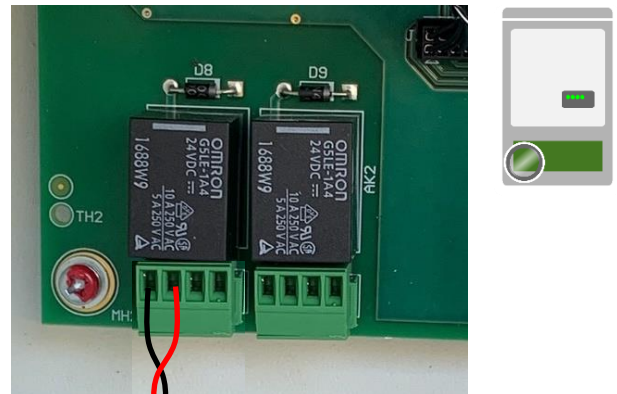

Figure 16: AK1 Evolve Hub control cable wiring.
1. Plug in the #3653 AK1 cable harness from the Evolve Hub to the AK1 relay terminal block as shown in Figure 16.